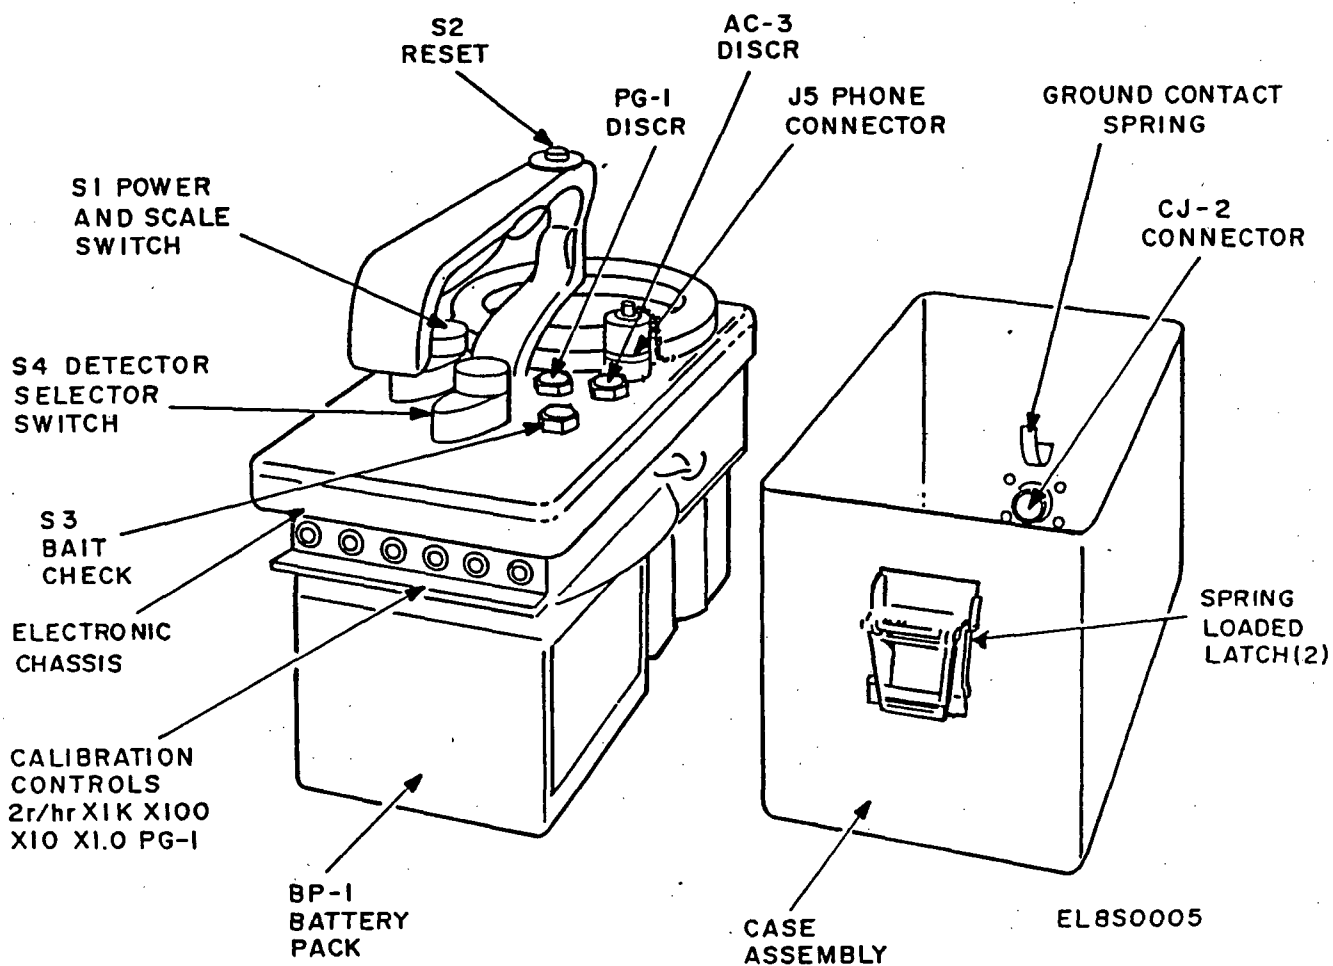

Figure 2-7. AN/PDR, Calibration Controls.
- (1) Release the two spring loaded latches (fig. 2-7) and remove the electronic chassis and battery pack from the electronic case assembly.
- (3) Connect the center conductor of a shielded jumper lead to the center post of connector CJ-2 (fig. 2-7) in the case assembly.